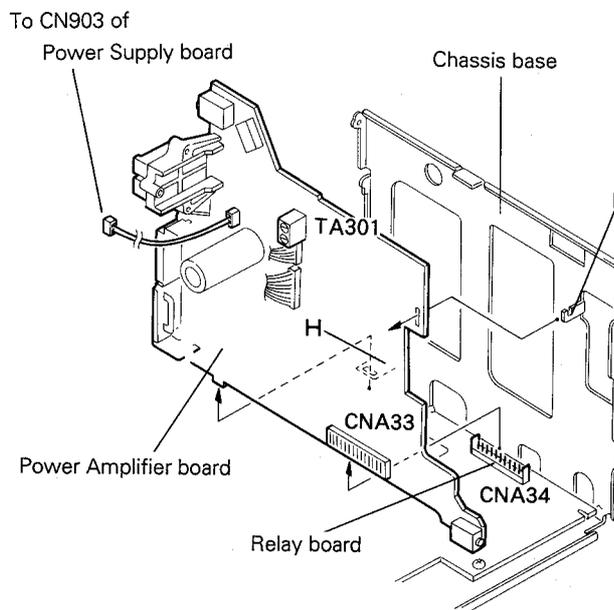

Fig. 7-11
■ **Power Amplifier board** (Fig. 7-11)